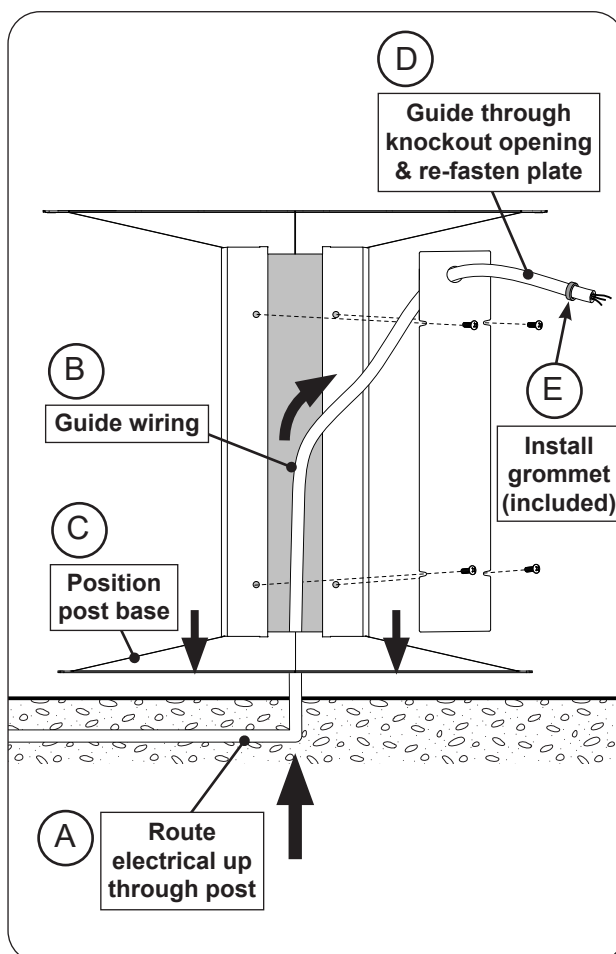

Fig. 26-2 Remove access plate and knock-out
- Tilt the post base slightly and carefully feed the electrical wires (coming from underground) up from under the post base (See Fig. 26-2, A)
- Guide wiring up the post assembly (See Fig. 26-2, B)
- Carefully rest the post base at its designated location (See Fig. 26-2, C)
- Feed the electrical through the knockout hole of the access plate and re-fasten the access plate (See Fig. 26-2, D)
- Install the grommet (included) onto the electrical and slide the grommet up against the knockout hole and snap into place (See Fig. 26-2, E)